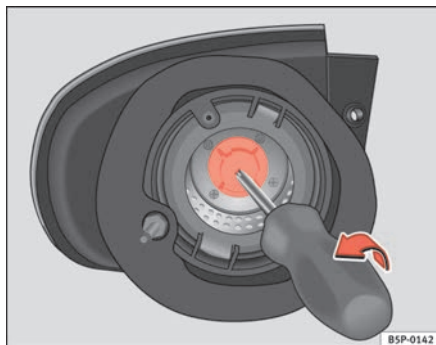

Fig. 193 Indicator lights.
- Pull out the lamp holder from the turn signal using a screw driver in the direction of the arrow (see ⇒ fig. 193).